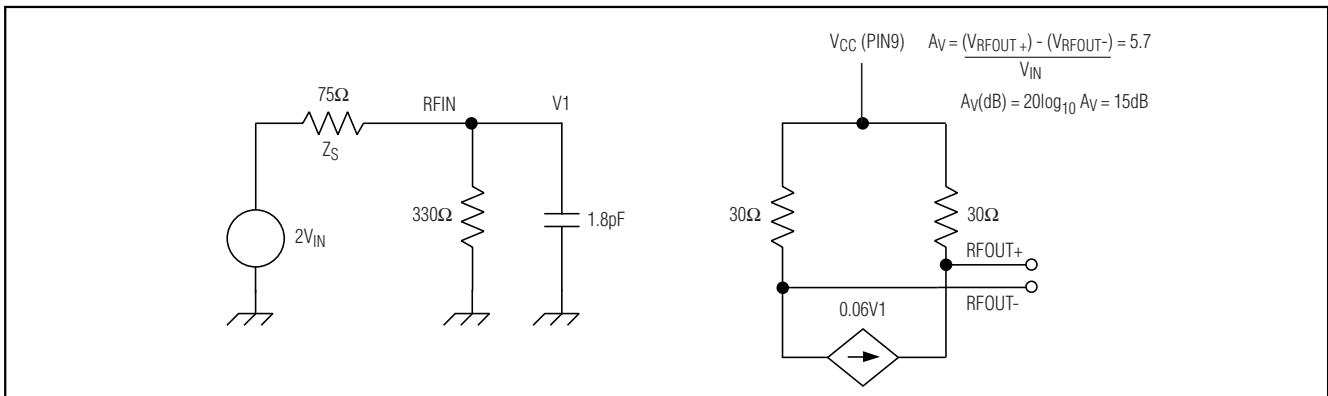

Figure 2. LNA Equivalent Circuit and Open-Circuit Voltage Gain Calculation
**Note 5:** Corresponding voltage gain at RL = 3kΩ, calculated as in Figure 2.
insertion voltage gain (see Figure 2) when driving a 3kΩ load. At 300MHz, the noise figure is 4.2dB, IIP2 and IIP3 are 42dBm and 14dBm, respectively.
The LNA input is single-ended. The RF input signal is coupled to RFIN through a DC blocking capacitor. The LNA outputs drive a differential load, such as a mixer, through DC blocking capacitors. The equivalent input LNA impedance is  $330\Omega$  resistive in parallel with  $1.8\text{pF}$ , as shown in Figure 2. The approximate equivalent differential output impedance of the LNA is  $60\Omega$ . To achieve S11 less than  $-6\text{dB}$ , an insertion loss of greater than  $1\text{dB}$  must exist between the cable input and MAX3524. This loss typically comes from a diplexer and PIN attenuator in a cable modem application. A shunt resistor may be added at the input of the LNA to improve the return loss (S11). Typically the return loss of the system is  $2\text{dB}$  better, as explained above. The S11 and noise-figure values for different shunt resistors are given in Table 1.